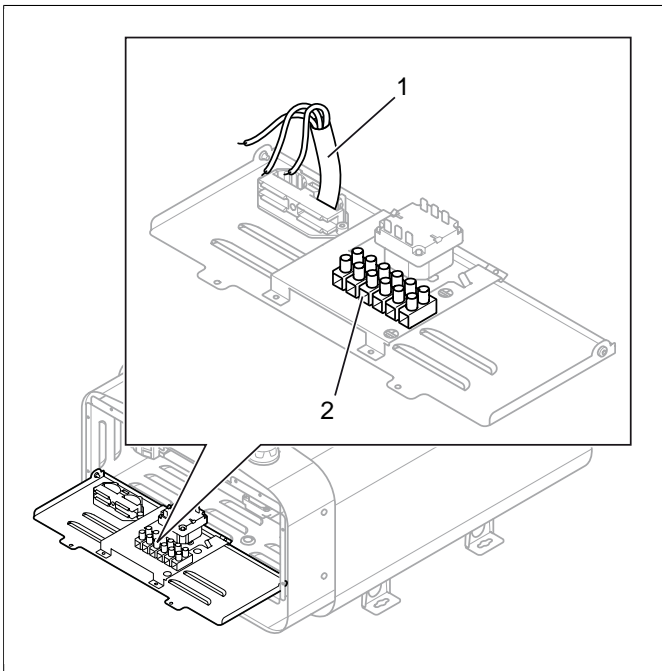

Figure 6: Circuit board
Connect the electrical cable (1) to terminal (2) (see **Figure 6**, Page 4) according to wiring diagram (see The section called **Connection/wiring diagram**, Page 6).